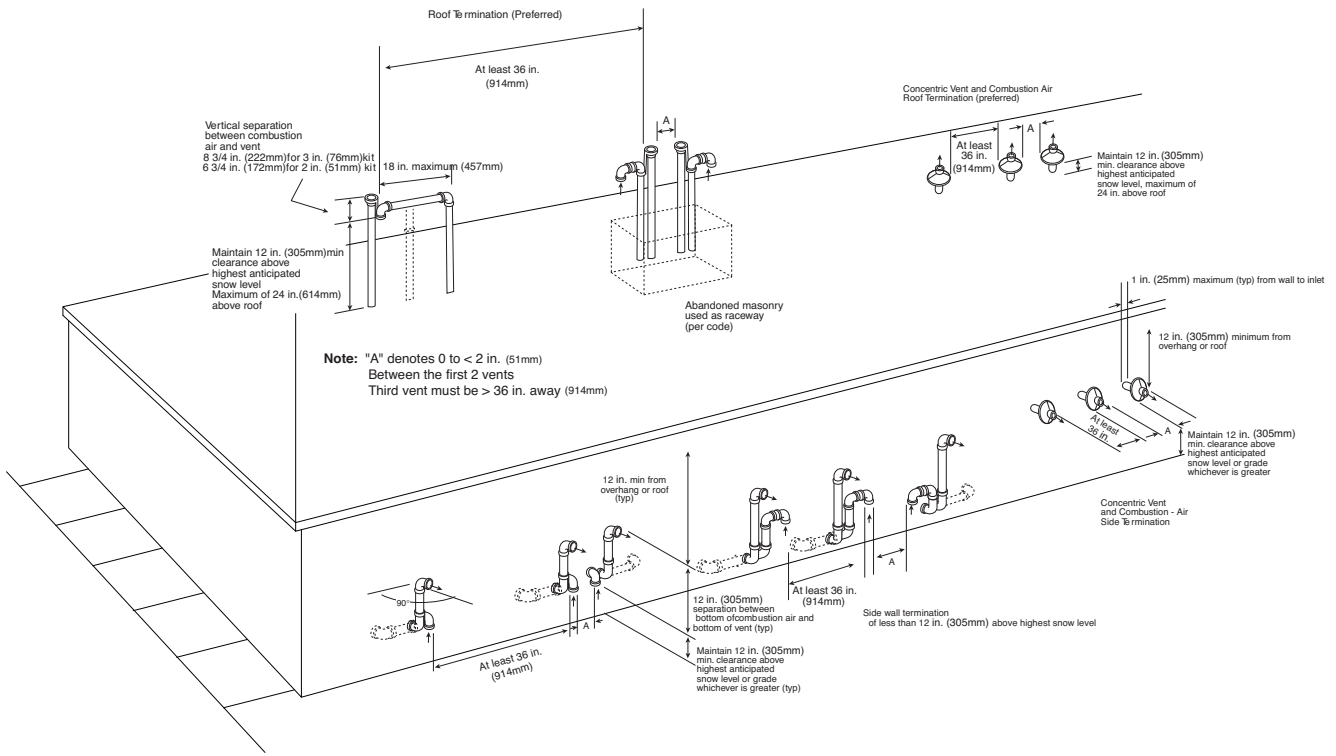
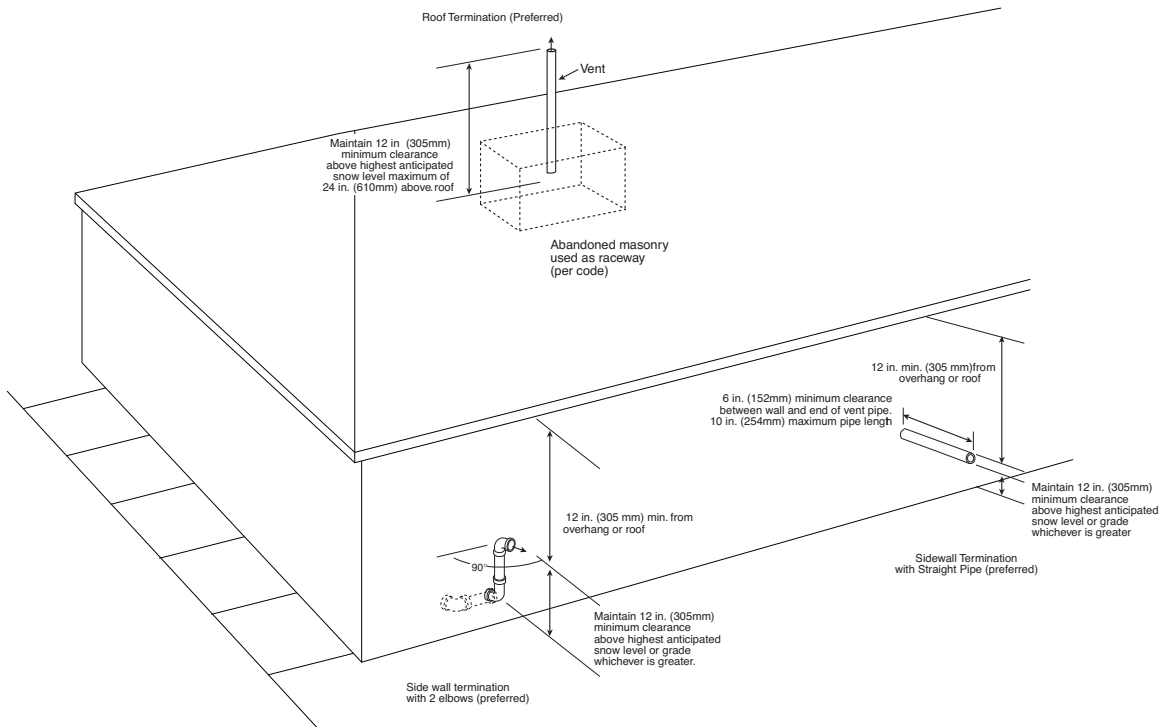

Fig. 44 - Combustion Air and Vent Pipe Termination for Direct Vent (2-pipe) System
Fig. 45 - Vent Pipe Termination for Non-Direct Vent (1-pipe) System
Combustion-air (direct vent/2-pipe system only) and vent pipe must terminate outside structure, either through sidewall or roof. For vent termination clearance, refer to Table 8 for Direct Vent/2-Pipe system and Table 9 for Non-direct Vent/1-Pipe system. For exterior piping arrangements, refer to Fig. 44 for Direct Vent/2-Pipe system and Fig. 45 for Non-Direct/1-Pipe system.
Sidewall combustion air pipe termination (direct vent/2-pipe system only) and vent pipe termination may be extended beyond area shown in Fig. 44 or in Fig. 45 per application in outside ambient by insulating pipe as indicated in Table 10.
Roof terminations - Locate assembly through roof to appropriate height as shown in Fig. 44.
Sidewall terminations - Locate assembly through sidewall with rain shield positioned no more than 1-in. (25 mm) from wall as shown in Fig. 44.
5. Check required dimensions as shown in Fig. 44.
Roof terminations - Loosely install pipe coupling on properly cut vent pipe. Coupling must be positioned so bracket will mount as shown in Fig. 44.
For applications using combustion-air pipe option, indicated by dashed lines in Fig. 44, install 90° street elbow into 90° elbow, making a U-fitting. A 180° U-fitting may be used.
Sidewall terminations - Install bracket as shown in Fig. 44. For applications using vent pipe option indicated by dashed lines in Fig. 44, rotate vent elbow 90° from position shown in Fig. 44.
4. Check required dimensions as shown in Fig. 44.
(Direct Vent/2-Pipe System ONLY) - When 2 or more 58MTB furnaces are vented near each other, 2 vent terminations may be installed as shown in Fig. 44, but next vent termination must be at least 36 in. (914 mm) away from first 2 terminations. It is important that vent terminations be made as shown in Fig. 44 to avoid recirculation of flue gases.